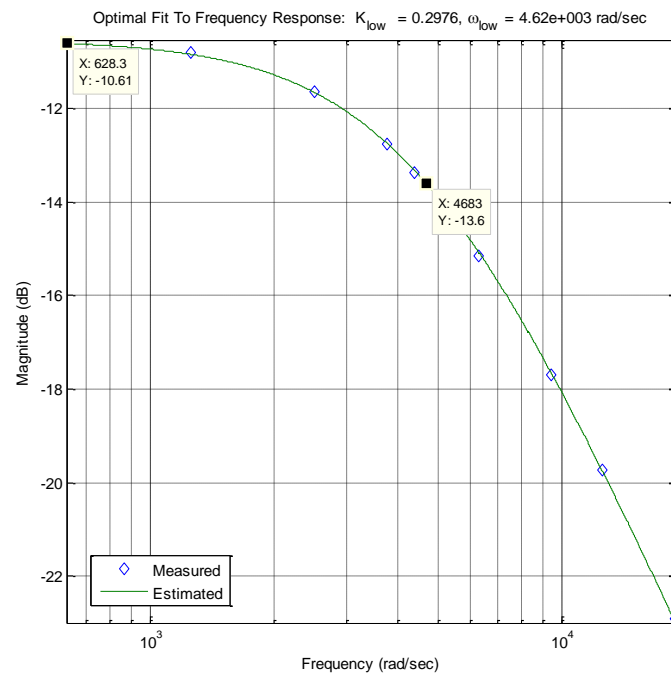

Figure 6: lowpass filter with a bandwidth of approximately 4683 rad/sec (745 Hz) and gain of -10.61 dB (0.295)
9. You should get results similar to that shown in Figure 6. Click on the Datatip icon (just below Desktop) to identify points on the graph. Once you have identified the maximum value, you may have to use a right click and create a new data tip (it usually helps if you right click when you are on a current datatip). You can fine tune your datatip locations by using the cursor keys on your keyboard. Your data points should be from the peak value to a value 3 dB lower. Include this graph in your memo. Be sure your graph has two datatip points.